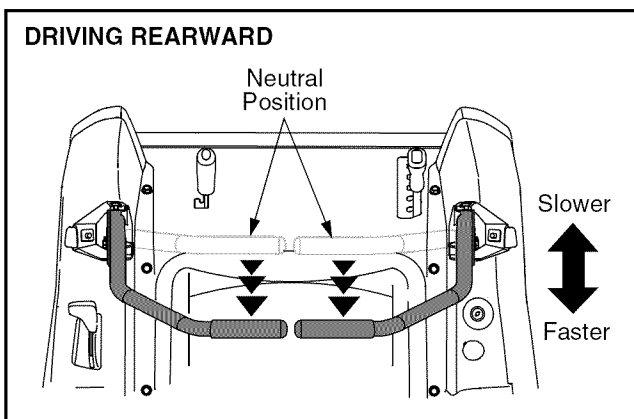

Figure 16
- Slowly and evenly move both drive control levers rearward. The tractor will start to move in the reverse direction. See Figure 16.